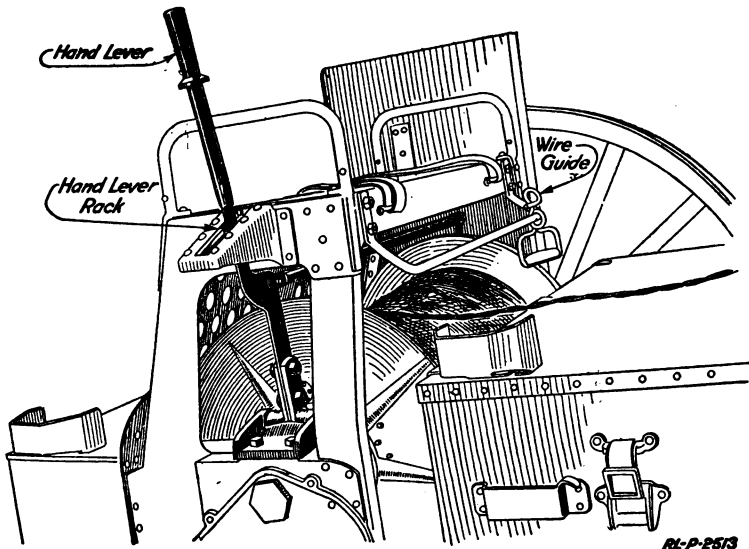

Fig. 23.—The battery reel
1. Go to the rear of the cart and note the hand lever (Fig. 23) extending from the axle on the left side of the cart. Take hold of this lever and throw it into a mid position (called neutral). Now try to